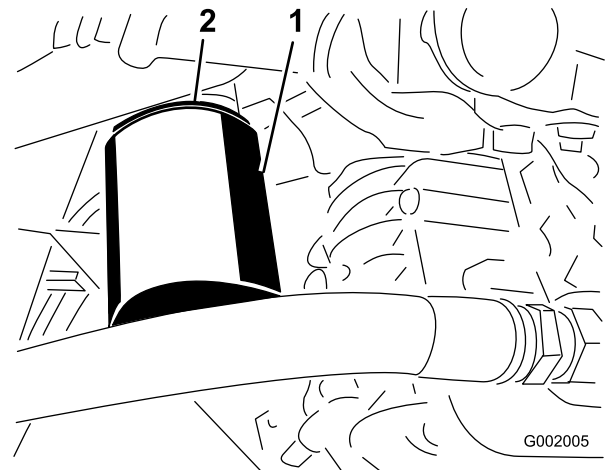

Figure 71
- Remove the filter (Figure 71).